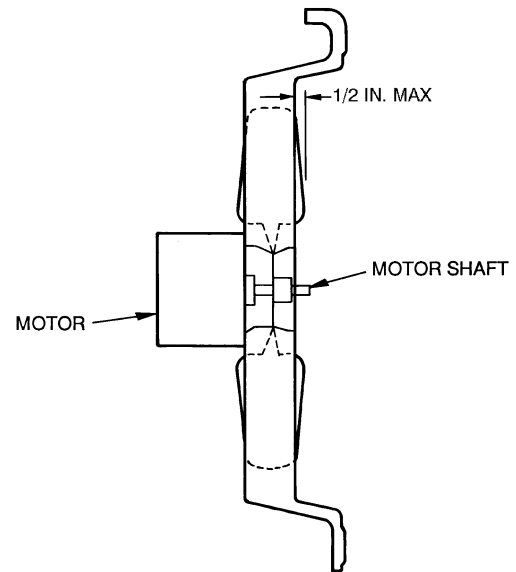

Fig. 19 — Fan Blade Clearance
- b. Make sure that outdoor-fan blade is correctly positioned in fan orifice. Leading edge of outdoor-fan blade should be $\frac{1}{2}$ in. maximum from plastic fan orifice (see Fig. 19).